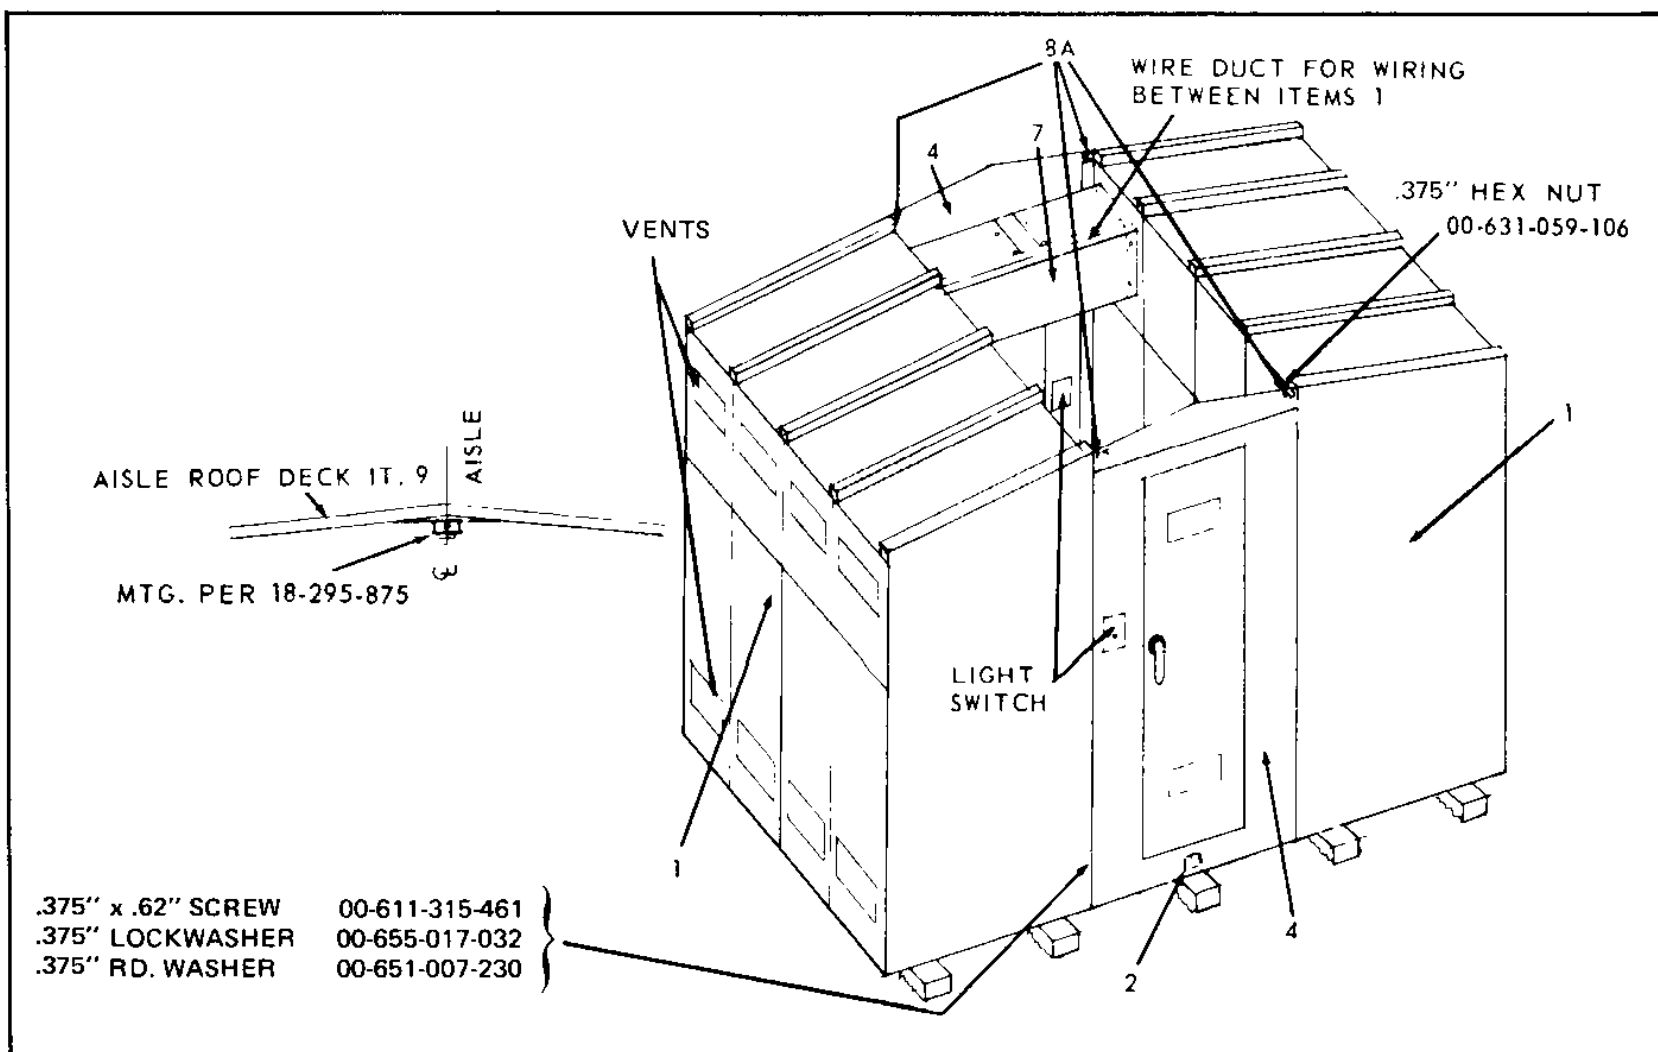

Figure 34. Door Installation - Common Aisle Layout
6. See Figure 34. Raise door assemblies (4) into place. Bolt doors to side plates of cubicles. Bolt to aisle sill using angle (2).